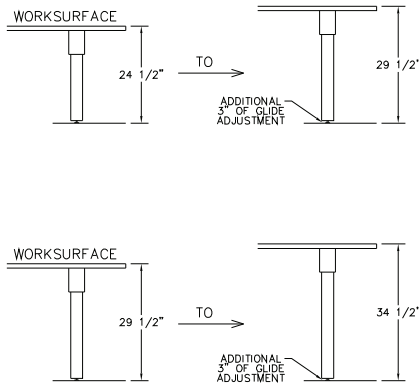

Figure 1
- Adjustable height is specified as **DOWN** from the standard 29" height (24"-29") or **UP** from the standard 29" height (29"-34"). See Figure 1.
- Designed for use on any conference-end work surface, can be used in place of the metal column on any D shaped work surface. See Figure 1.